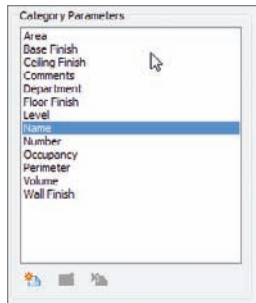

FIGURE 15.16 A list of available parameters you can add to the room tag
5. In the Edit Label dialog, the list to the left displays all the parameters that you can easily add to the room tag (see Figure 15.16). Do not change anything and click OK.